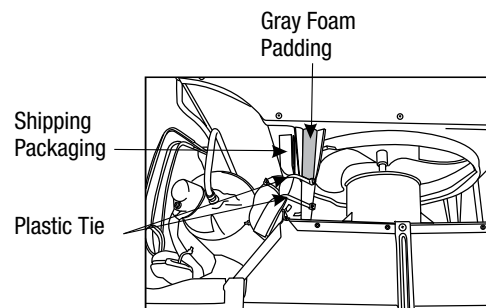

FIG. 7
10. Your unit may come with internal packaging. This packaging **MUST** be removed prior to installing the air conditioner back into the cabinet. (See Fig. 7.)